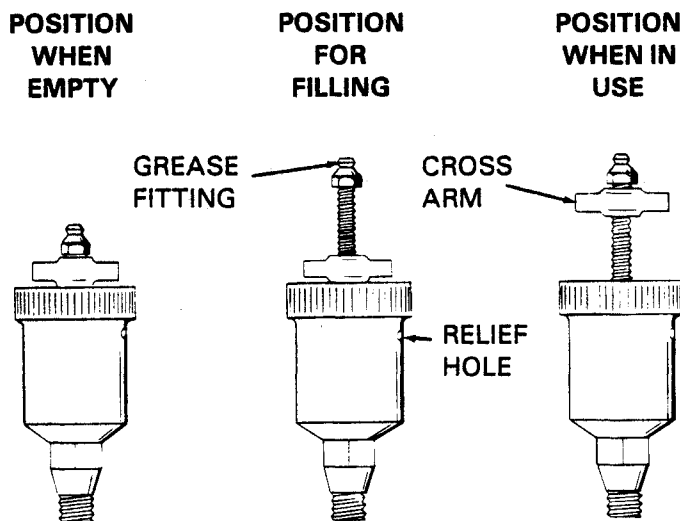

Figure 3. Automatic Lubricating Grease Cup
Before removing the seal assembly, turn the cross arm on the seal grease cup (13) clockwise until it rests against the cover (see figure 3). This will prevent the grease in the cup from escaping after the seal is removed.
Before starting the pump, fill the seal grease cup through the grease fitting with a good grade of No. 2 pressure gun grease until grease escapes from the relief hole. Turn the grease cup arm counterclockwise until it is at the top of the seam; this will release the spring to apply grease to the seal (see figure 3).